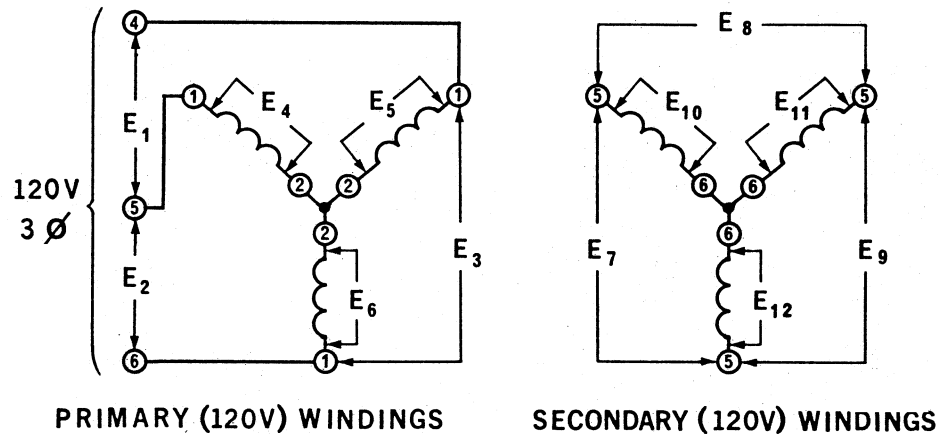

Figure 1-5.
- 1. a. The circuit shown in Figure 1-5 has three transformers connected in a _____ configuration.